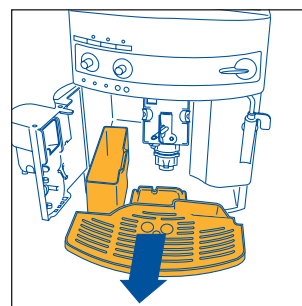

Fig. 16
**NOTE 7:** : the machine counts the number of cups of coffee made. Each 14 single cups (or 7 double cups), the 📊 light switches on steady (chap. 12 point 3), warning the user that the grounds container is full and must be emptied and cleaned. Until the grounds container has been cleaned, the light will remain on and the machine cannot deliver coffee. To clean the container, open the service door on the front (pulling the handle, Fig. 15), the ⚠ light flashes (see para 12 point 9); remove the drip tray (Fig. 16), empty and clean. Empty and carefully clean the grounds container, making sure to remove all the residues that may be deposited on the bottom. Also dry the any drops of condensate that may have formed inside the machine under the drip tray. **IMPORTANT:** when removing the drip tray, the grounds container **MUST** be emptied, even if it is not completely full. If this is not done, when next making coffee the grounds container may fill over the maximum level and block the machine with lumps of coffee grounds.
- remove the drip tray and the grounds container (Fig. 16) and clean them;